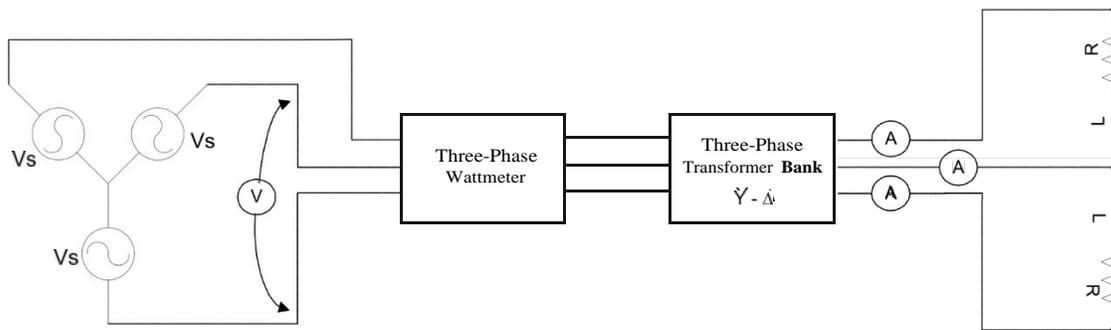

FIGURE 5.10
- h) Change the load for an unbalanced load as in Figure 5.10 and repeat all steps above.